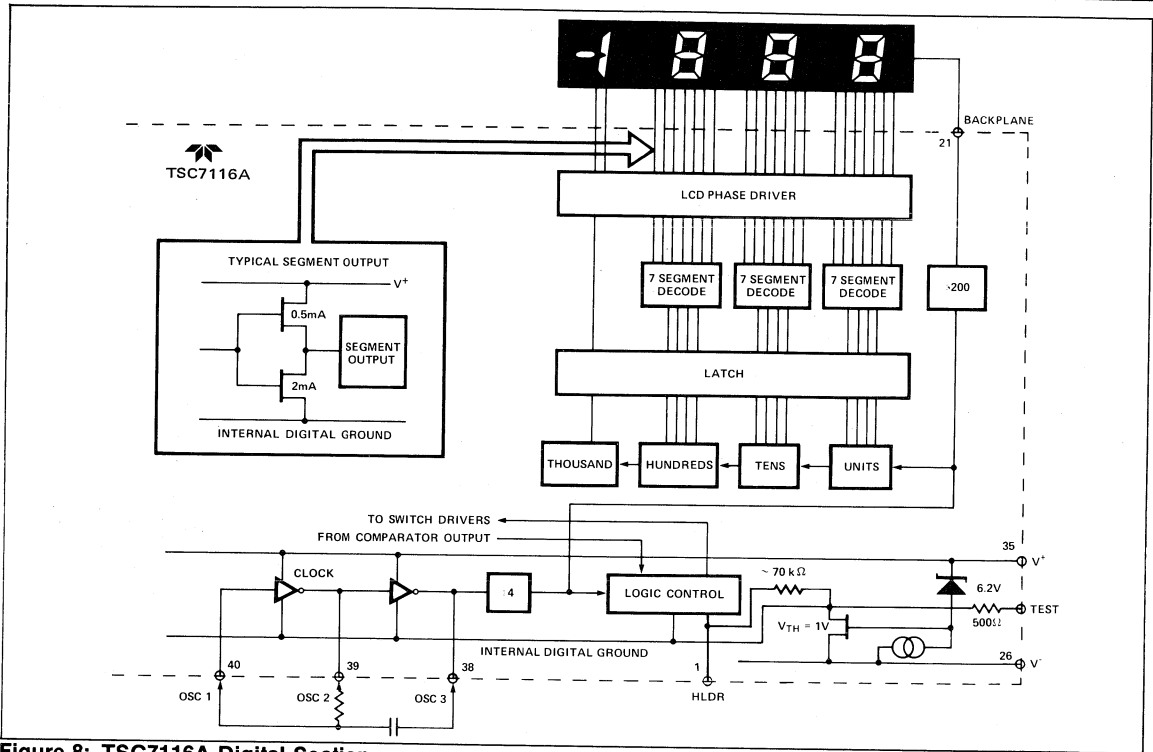

Figure 8: TSC7116A Digital Section
Figures 8 and 9 show the digital section for the TSC7116A and TSC7117A, respectively. In the TSC7116A (Figure 8), an internal digital ground is generated from a 6 volt Zener diode and a large P channel source follower. This supply is made stiff to absorb the large capacitive currents when the back plane (BP) voltage is switched. The BP frequency is the clock frequency divided by 800. For three readings/second this is a 60 Hz square wave with a nominal amplitude of 5 volts. The segments are driven at the same frequency and amplitude and are in phase with BP when OFF, but out of phase when ON. In all cases, negligible dc voltage exists across the segments.